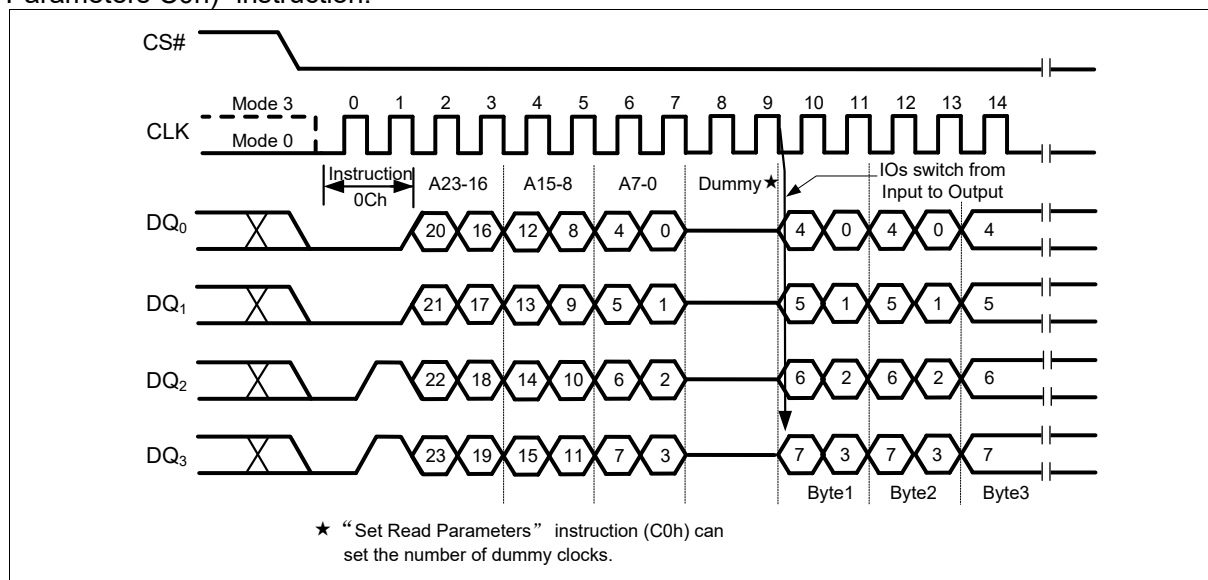

Figure 64 Burst Read with Wrap Instruction (QPI Mode only)
The Program Security Sector instruction sequence is shown in Figure 64. The Security Sector Lock Bit (LB) in the Status Register-2 can be used to OTP protect the Security Sector. Once a lock bit is set to 1, the Security Sector will be permanently locked and Program Security Sector instruction will be ignored.